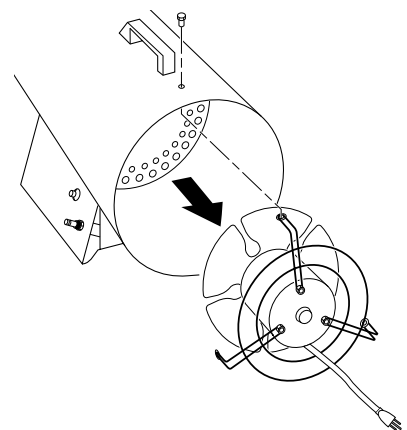

Figure 11 - Removing Motor and Fan Guard from Heater
2. Remove motor and fan guard from heater shell (See Figure 11).